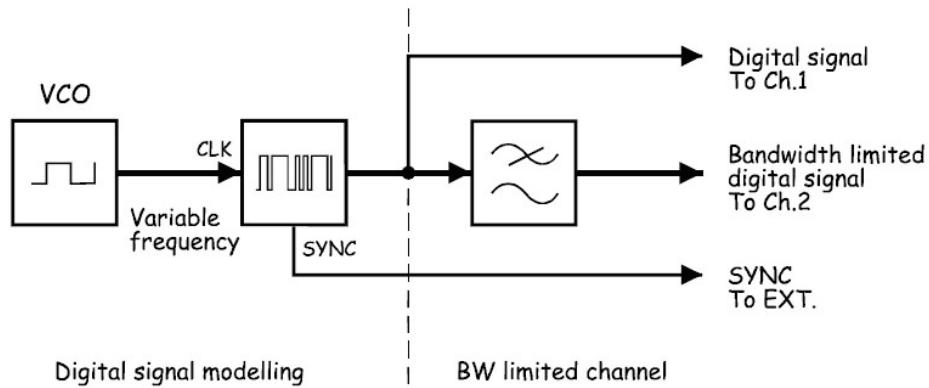

Figure 24: Studying bit-rate effect.
- Modify the setup as shown in Figure 24 below.